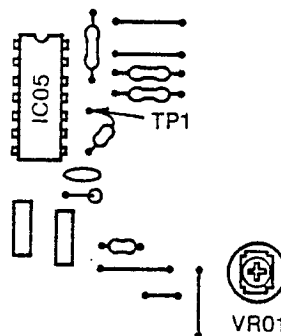

Fig. 9
2. Connect the oscilloscope to TP1. (Fig. 9)